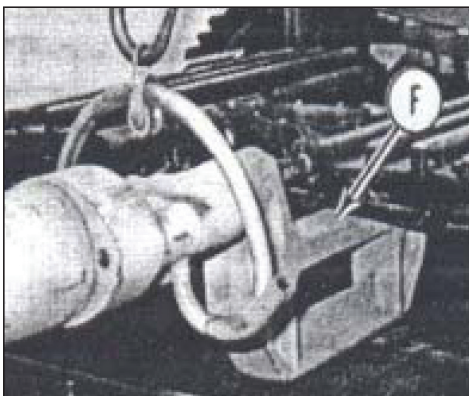

Fig. 3-19 Align pin bores and insert pin using hydraulic press
9. Press pin in all the way using the hydraulic press. (fig. 3-19).